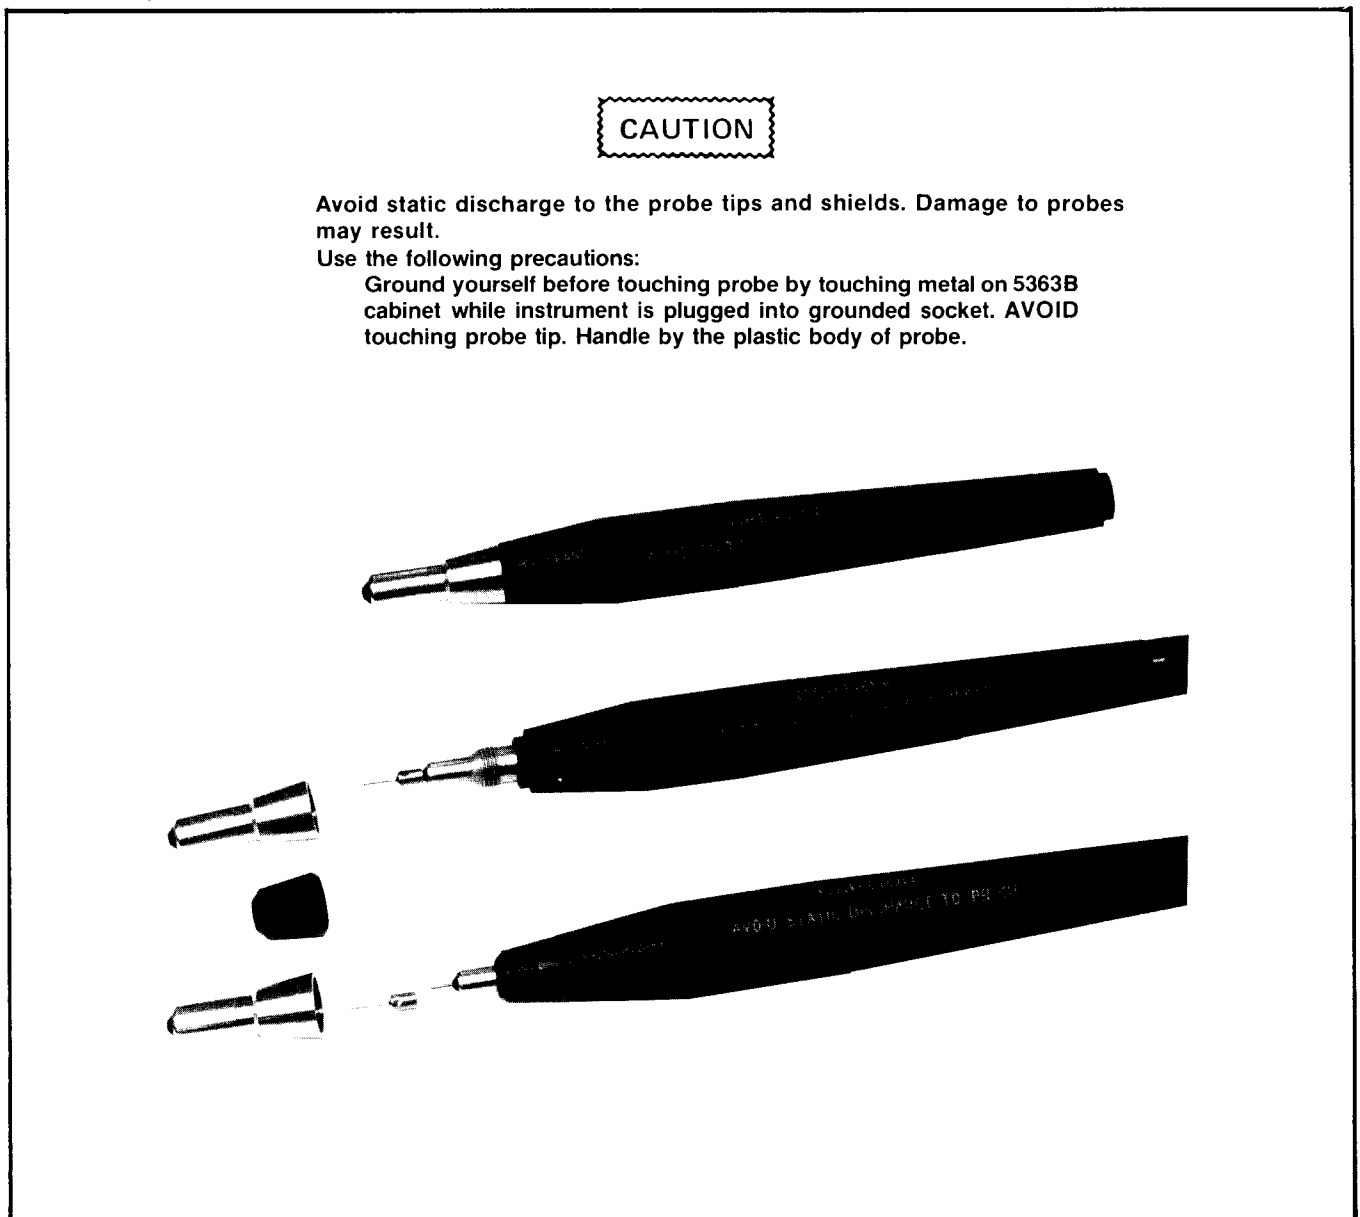

Figure 1-2. Changeable Probe Tips and Probe Cautions
- 5. AVOID STATIC DISCHARGE TO THE PROBE TIPS. DAMAGE TO THE PROBES MAY RESULT. FOLLOW CAUTIONS IN FIGURE 1-2.**
1-16. The probes have an input impedance of 1 Meg ohm and an input capacitance of <15 pF. For use with either Hewlett-Packard or Tektronix® RF hardware, the tip of the probe unscrews to allow the tip to be changed to mate with the specific manufacturer's equipment, see *Figure 1-2*.